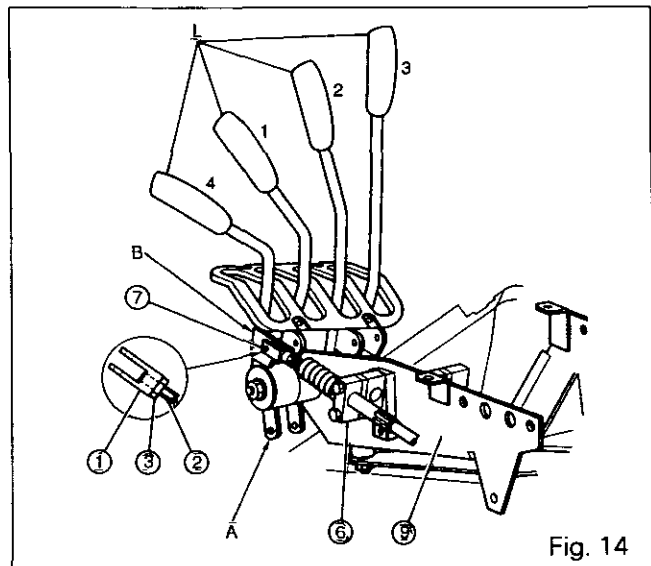

Fig. 14
Note: According to the type of unit, the clevis (1) can be attached to rod A or B. Fig. 14.
2. Screw the clevis (1) to the end of the cable thread (2) and attach it to the rod A or B of the appropriate lever L using the clip (7) Fig. 14. Tighten the nut (3) and check that the cable moves freely, FIG. 14.